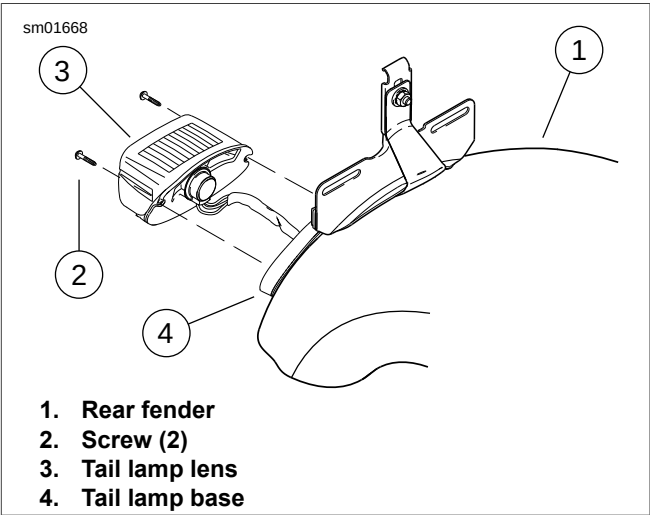

Figure 6-68. Tail Lamp Lens: All Models Except XL 883N, XL 1200X/V and XL 1200C/C ANV/CP/CA/CB
3. See Figure 6-68. Remove two screws (2) and tail lamp lens (3) from tail lamp base (4).